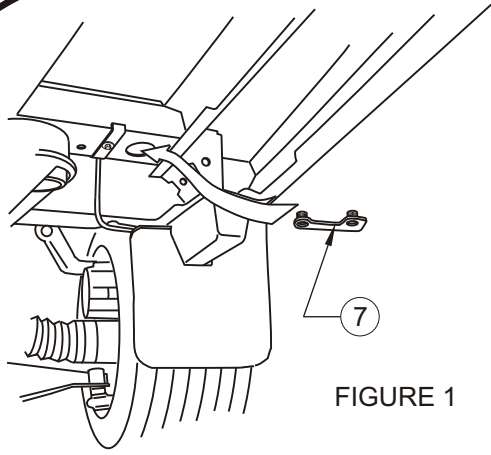

FIGURE 1
- STEP 2. Attach front brackets and support braces using M10 fasteners as shown. **SEE FIGURES 1 THROUGH 3.**